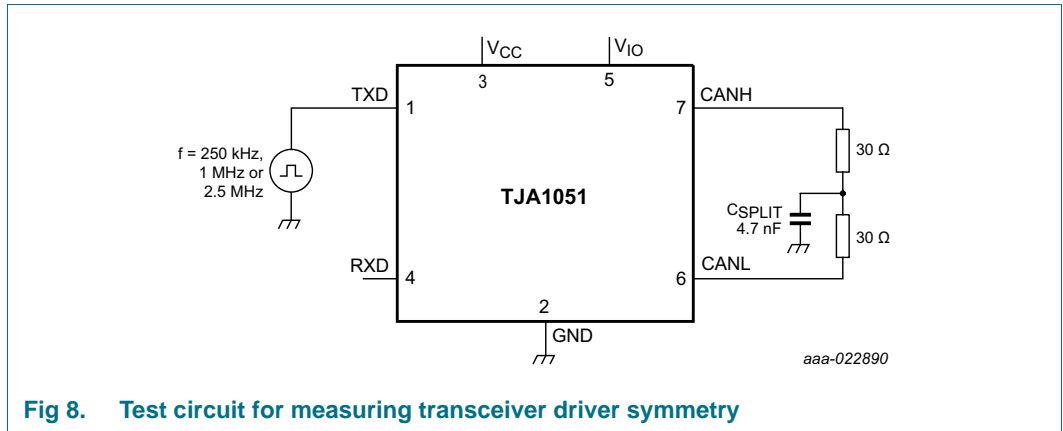

Fig 8. Test circuit for measuring transceiver driver symmetry
- [7] The test circuit used to measure the bus output voltage symmetry (which includes  $C_{SPLIT}$ ) is shown in Figure 8.